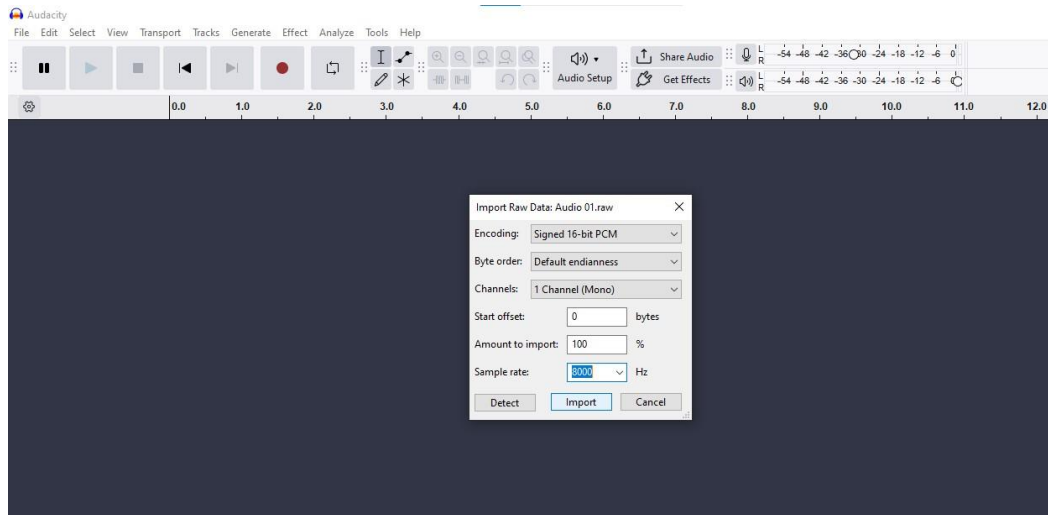

Figure 50: Sample Rate Selection
- In the import process another popup will display on the Audacity window as Import Raw Data: Audio 01 set Encoding to Signed 16-bit PCM and Sample Rate to 8000 Hz, then click Import as shown in Figure 50.